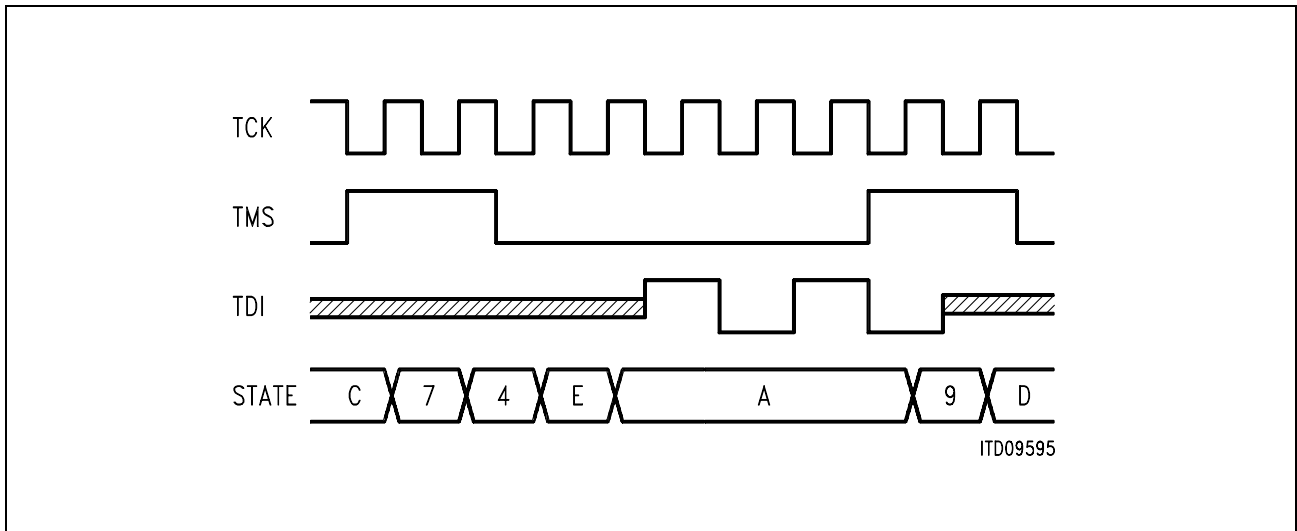

Figure 4
- The instruction TAP_TEST2 is shifted into the TAP controller (see **figure 4**)
The TAP controller state machine passes through the different states according to **figures 4 to 7**.
States of TAP Controller (explanation for **figures 4 to 7**)